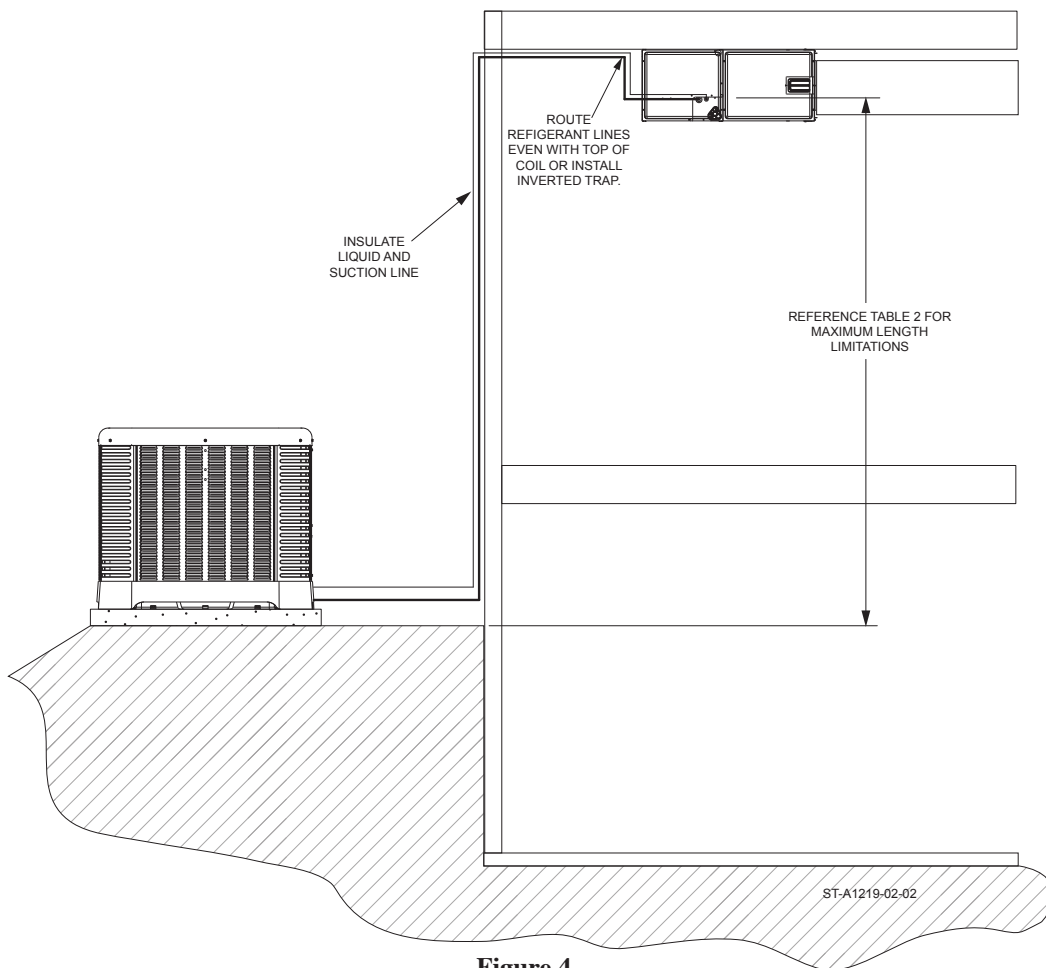

Figure 4
- Refrigerant lines should be routed even with the top of the ID coil or an inverted trap is to be applied (refer to figure 4).